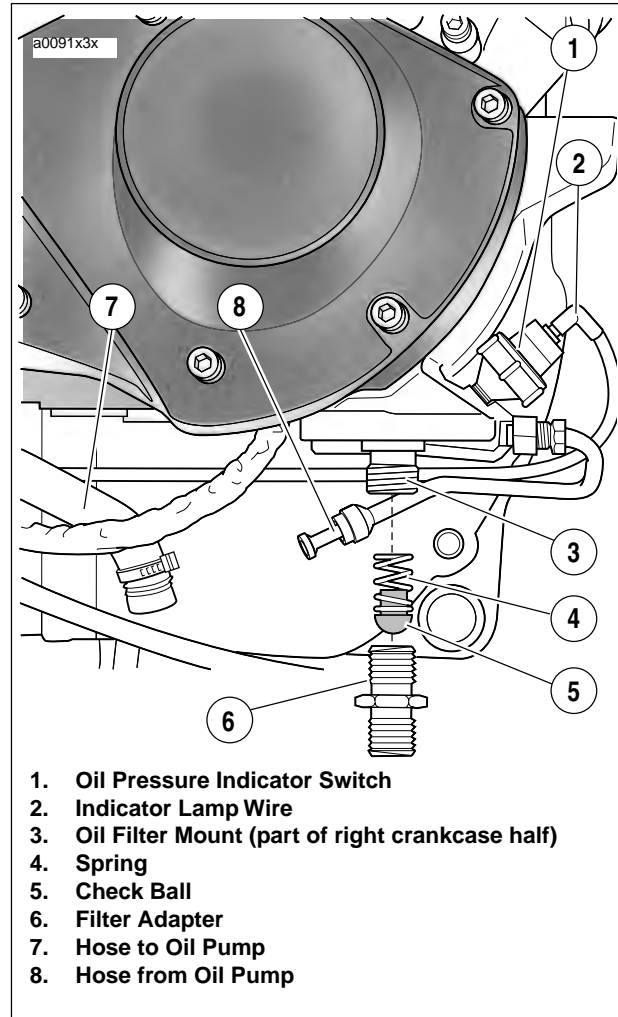

Figure 3-94. Oil Filter Mount Assembly
See Figure 3-94. Oil is pressure-fed from the oil pump to the filter mount via rigid external steel line. Oil travels through the filter mount into the filter through the outer filter holes.
2. See Figure 3-94. Remove filter adapter from filter mount. Remove check ball and spring.
1. See Figure 3-94. Install oil pressure indicator switch using OIL PRESSURE SENDING UNIT WRENCH (Part No. HD-41675). Tighten to 4-6 ft-lbs (5-8 Nm).